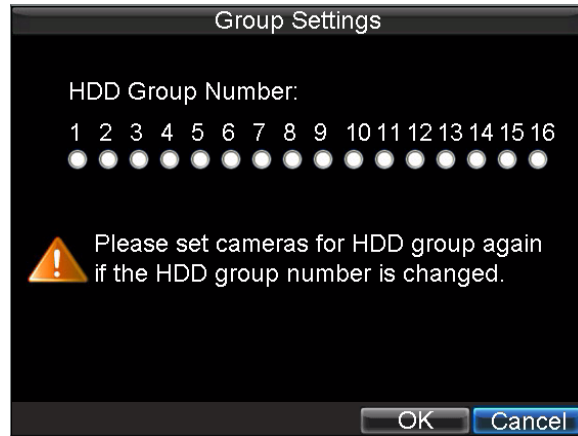

Figure 2. HDD Group Settings Menu
4. Set the **HDD Group Number**, as shown in Figure 2.